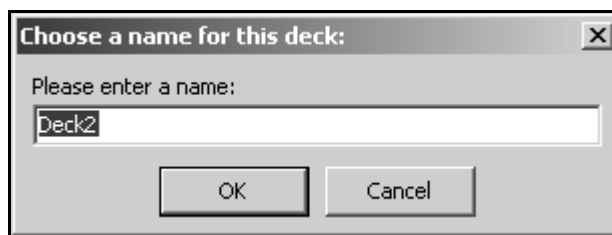

Figure 3-8. Choose a name for this deck
2. Select **New Deck**. Choose a name for this deck appears (Figure 3-8).